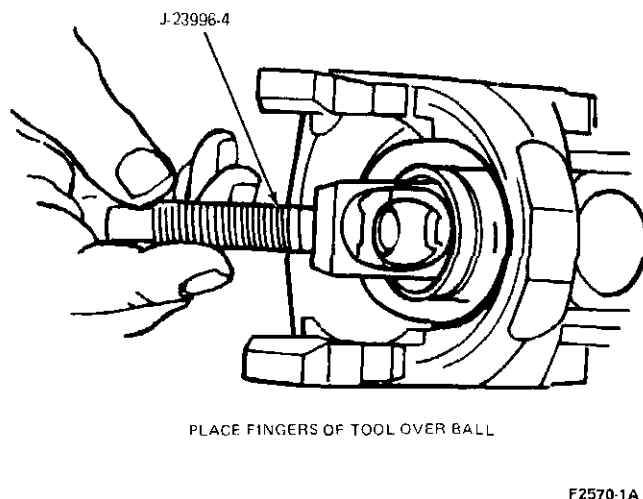

FIG. 14 Installing Ball-Remover Tool
8. Using ball remover tool, Part No. J-23996-4, place the fingers of the tool under the ball as shown in (Fig. 14).